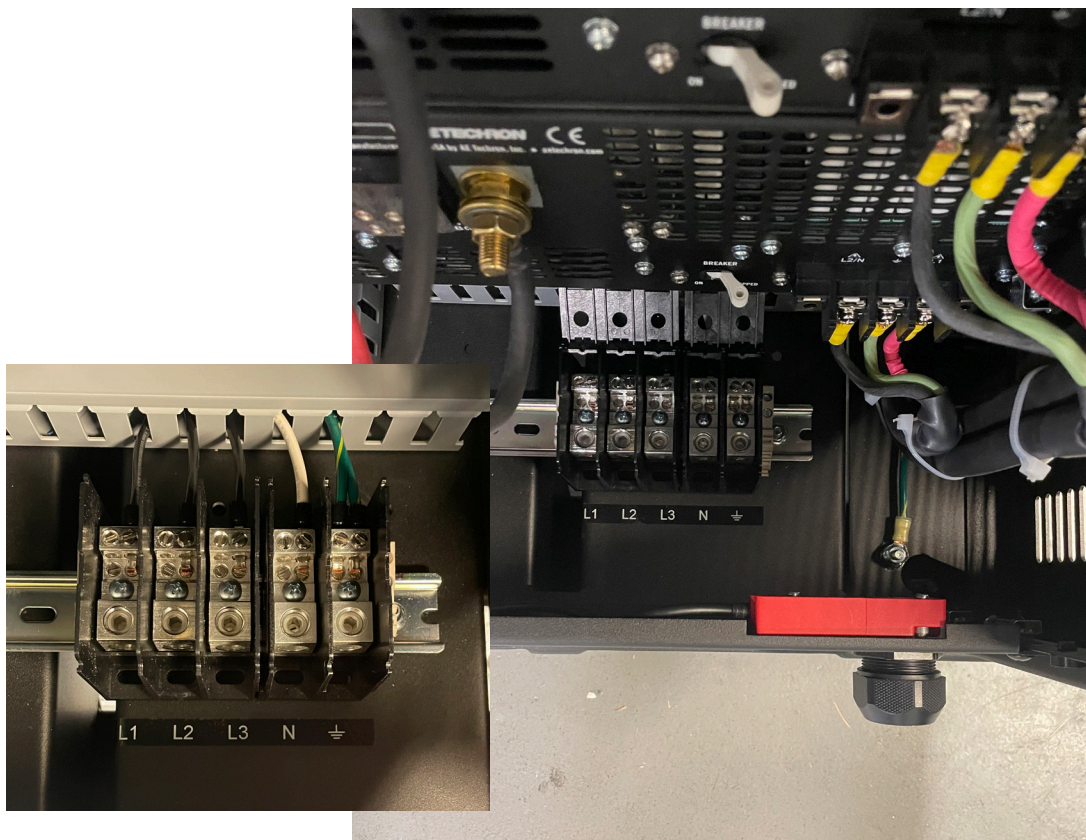

Figure 3.6 – Location of AC Mains Barrier Strip with labeling detail (inset)
3. Open the access door on the back of the amplifier and locate the fuse and AC inlet panel near the bottom of the amplifier. Locate the power block, which is mounted behind the fuse and AC inlet panel (see **Figure 3.6**).